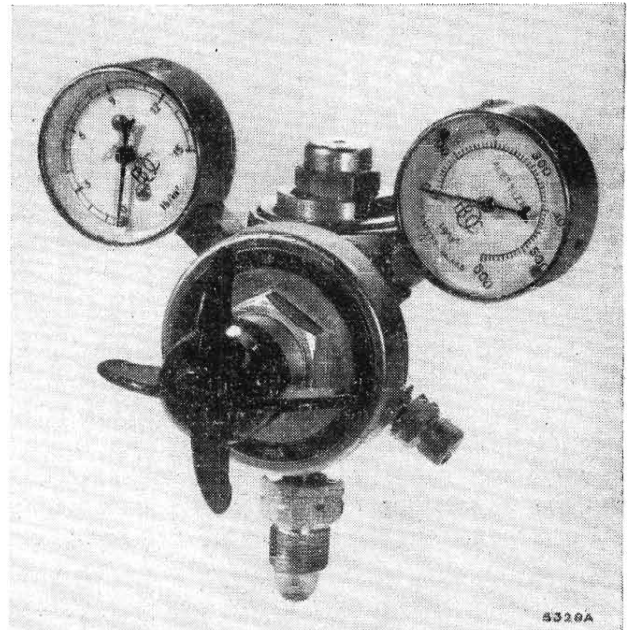

Fig. O.17. Type B.A.R.9 two-stage acetylene regulator.
- (5) Screw the acetylene regulator (painted MAROON) (Fig. O.17) into the acetylene cylinder valve. The acetylene cylinder valve outlet and acetylene regulator connection have **left-hand** screw threads.
- (6) Tighten the regulator in the cylinder valve. Do not use excessive force, but make certain that the joints are gastight.
- (7) Connect the hose (acetylene RED, oxygen BLACK) to the screwed outlets of the regulators by means of the screwed connections secured in the ends of the hose. Blow the hose through before attaching to the regulator or blowpipe in order to remove dust and dirt and to remove chalk when the hose is new.
- (8) Connect the other end of the hose, that fitted with a hose protector, to the blowpipe—the acetylene hose to the connection marked 'A', the oxygen to the connection marked 'O'. Keep the blowpipe control valves closed. (A high- or low-pressure blowpipe can be used with the dissolved acetylene. If a low-pressure blowpipe is used the acetylene pressure should never exceed 2 lb./sq. in. [ $\cdot 14 \text{ kg./cm.}^2$ ].)